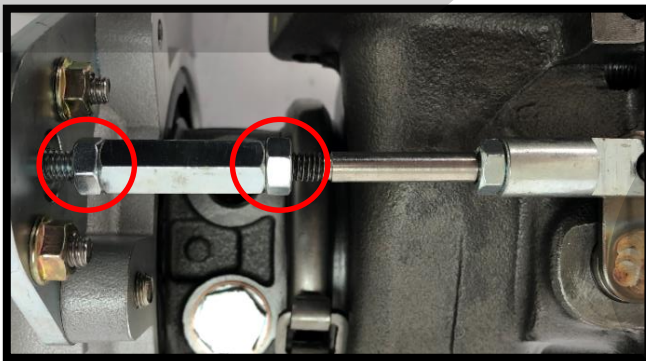

Figure 10d
- e) Using two 10mm wrenches, loosen the two locknuts from the actuator rod turnbuckle. Shown circled in red in Figure 10d. NOTE: one of the ends is left-hand thread instead of typical right-hand thread.
- i) Install all nine studs into the turbo housing hand tight as shown in **Figure 10d**. Then install the exhaust manifold gasket.